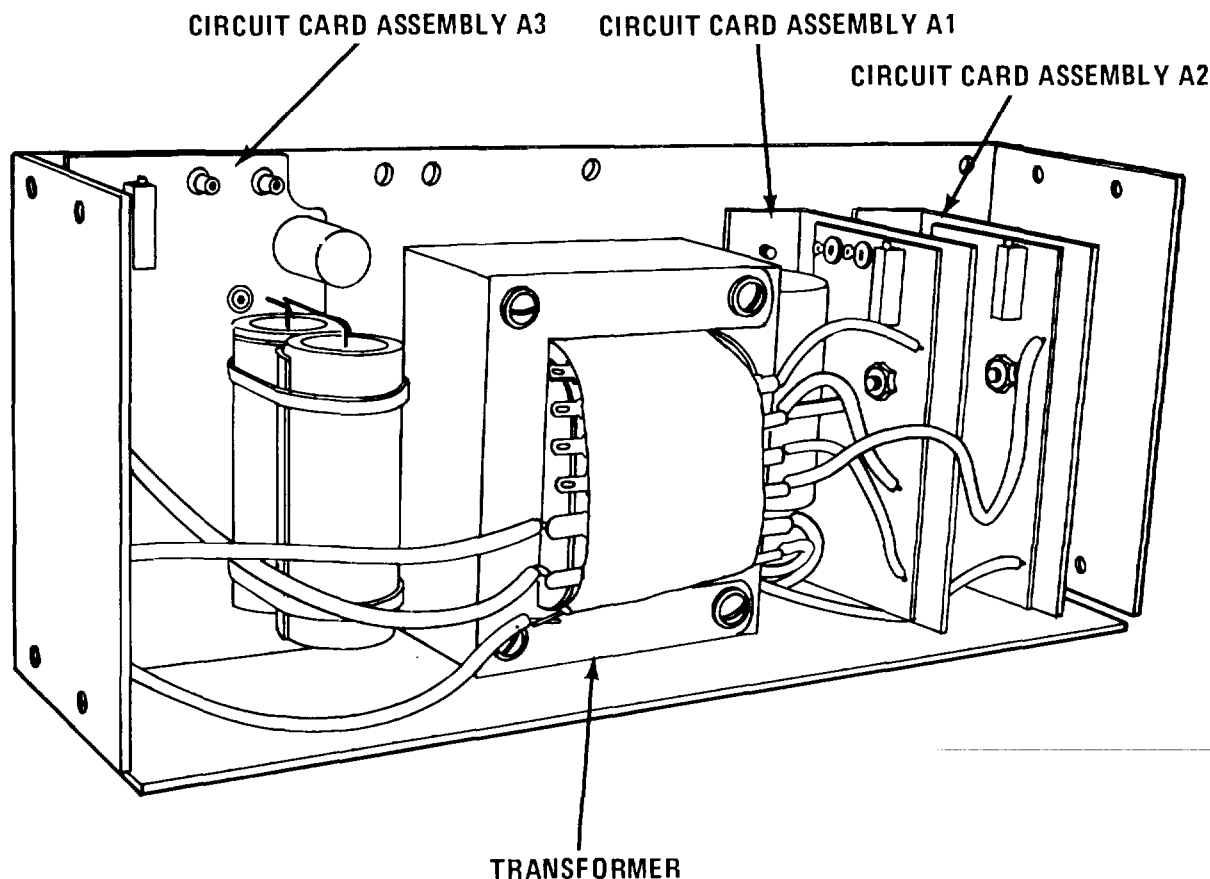

Figure 8-6. Power Supply, 4PS1
g. 4PS1A1 Circuit Card Assembly Disassembly. To disassemble 4PS1A1 circuit card assembly for servicing or component replacement, perform the following steps. Further disassembly should be limited to removal of parts for repair or replacement. Refer to figure 8-6 for location of circuit card.
- (1) Disconnect the green wire from the top of the card.
- (2) Remove the two screws on the back cover of the power supply.
- (3) Disconnect the two orange wires from the top of the card.
- (4) Remove the bracket with the circuit card still attached.
- (5) Remove the two screws holding transistor Q2 to the bracket.
- (6) Unsolder the black ground wire from the back of the card and remove card.
h. 4PS1A2 Circuit Card Assembly Disassembly. To disassemble 4PS1A2 circuit card assembly for servicing or component replacement, perform the following steps. Further disassembly should be limited to removal of parts for repair or replacement. Refer to figure 8-6 for location of circuit card.
- (3) Disconnect the violet wire from the top of the circuit card.
i. 4PS1A3 Circuit Card Assembly Disassembly. To disassemble 4PS1A3 circuit card assembly for servicing or component replacement, perform the following steps. Further disassembly should be limited to removal of parts for repair or replacement. Refer to figure 8-6 for location of circuit card.
- (3) Disconnect the four yellow wires from the top of the card.
- (4) Disconnect the grey and white wires from transformer T1.
- (5) Remove the four screws holding transistors Q2 and CR1 to the power supply.